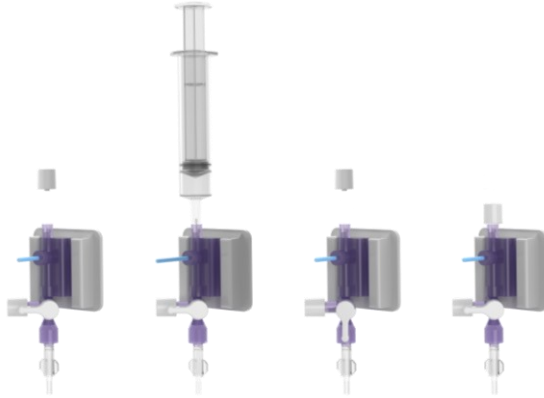

Figure 16 Priming and zeroing of the pressure sensor
- Remove the cap on top of the pressure sensor and place a sterile syringe on the port (Figure 16).
- Turn the valve on the pressure sensor downwards to open the sensor to measure atmospheric pressure (Figure 16).
Before continuing to the next step, please ensure that the pressure sensor valve is in the correct position (Figure 16).